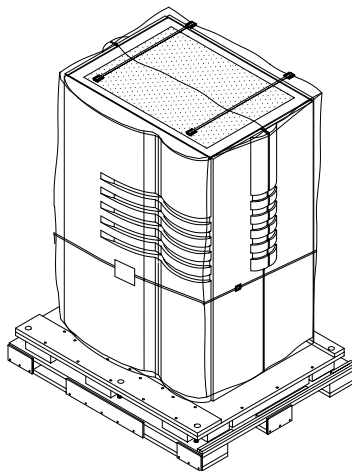

FIGURE 5-15 Securing the Plastic Cover
11. Secure the cabinet to the pallet using the plastic banding, the banding seals, and the plastic corner protectors (FIGURE 5-15).